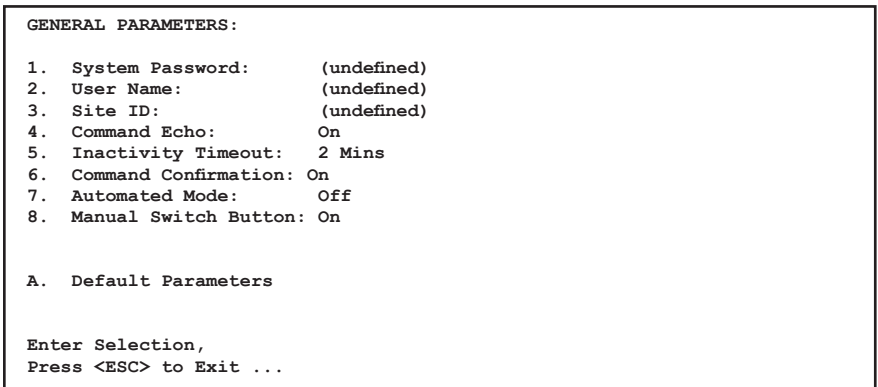

Figure 5.4: General Parameters Menu - Text Interface
- **Text Interface:** Type /G and press [Enter]. The General Parameters Menu will be displayed as shown in Figure 5.4.